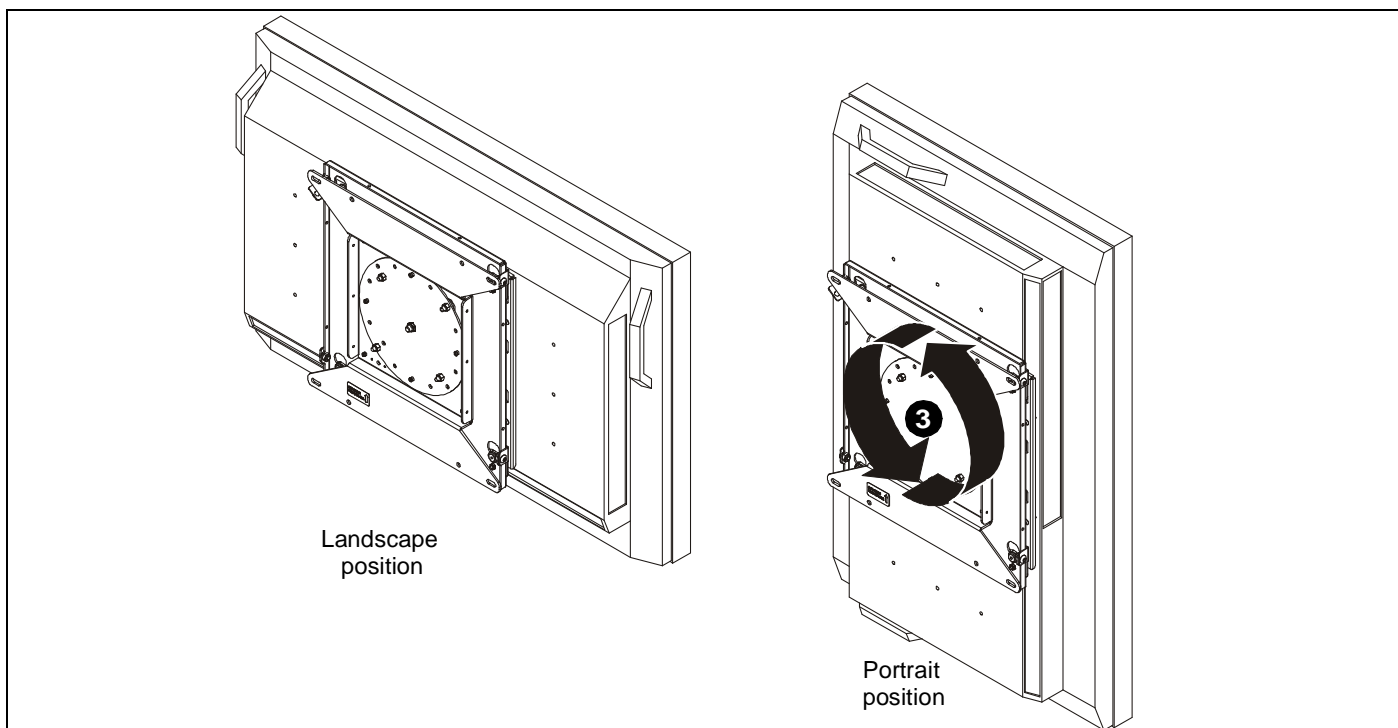

Figure 6
- Rotate the mount to the desired position. (See Figure 6)